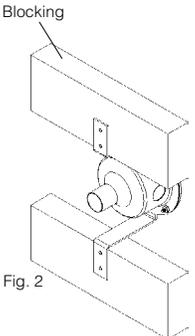

Fig. 2
3. Attach the assembly by nailing or screwing to blocking (by others) as shown in Fig.2. The front of the backbox should measure 1/2" out from the face of the blocking.